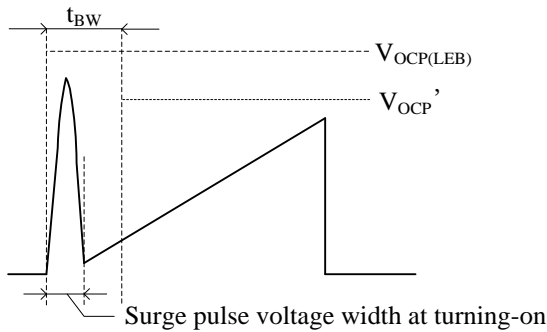
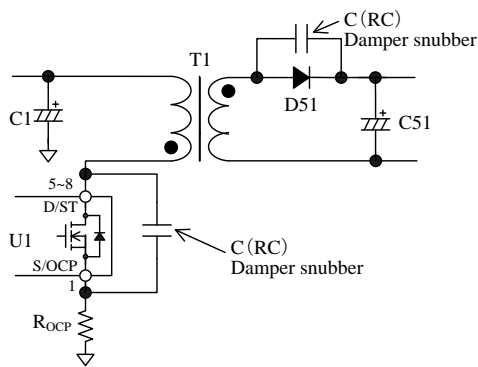

Figure 10-12. S/OCP Pin Voltage
Figure 10-13. Damper Snubber
During the leading edge blanking time, the OCP threshold voltage becomes $V_{OCP(LEB)} = 1.69\text{ V}$ which is higher than the normal OCP threshold voltage as shown in Figure 10-12. Changing to this threshold voltage prevents the IC from responding to the surge voltage in turning-on the power MOSFET. This function operates as protection at the condition such as output windings
When the power MOSFET turns on, the surge voltage width of the S/OCP pin should be less than t_{BW} , as shown in Figure 10-12. In order to prevent surge voltage, pay extra attention to R_{OCP} trace layout (see Section 11.2). In addition, if a C (RC) damper snubber of Figure 10-13 is used, reduce the capacitor value of damper snubber.